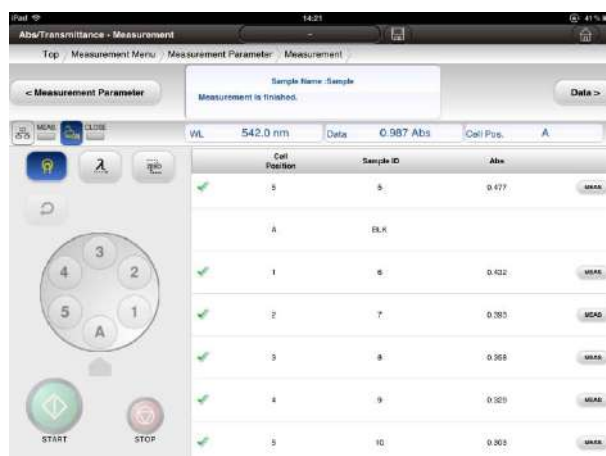

Fig. 4-41 Example of the Window After Sample Measurement (Sample Number: 10)
- (5) When measurement of the set number of samples is completed, the window shown in Fig. 4-41 will be show.